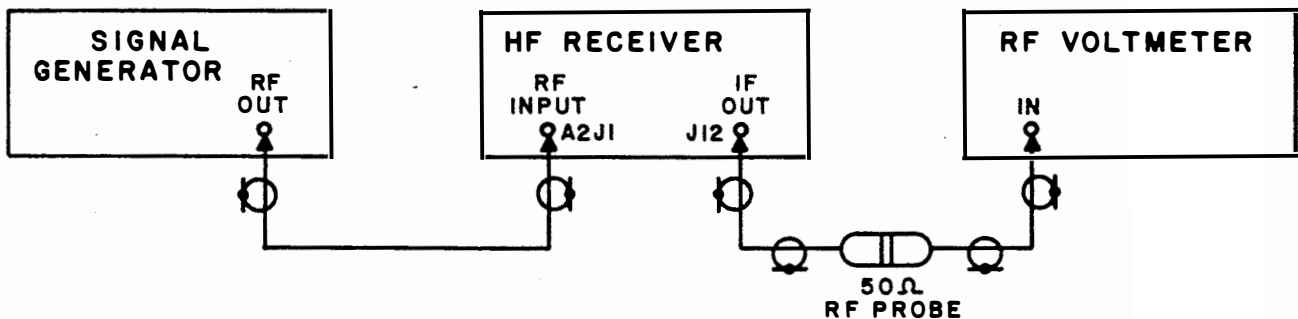

Figure 4-1. IF Gain and Bandwidth Performance, Test Setup
(1) Test equipment required. This test will utilize a signal generator, an RF voltmeter and a 50  $\Omega$  RF probe. Specifics are set forth in table 6-1.
(2) Technician rating required. An Electronic Technician Second Class or above should perform this test.
(3) Set up data. The test equipment should be connected to the receiver as shown in figure 4-1.
(1) Test equipment required. This test will utilize a signal generator, an RF voltmeter, and a 50  $\Omega$  RF probe. The equipment required is identical to that specified in paragraph 4-4.c.(1) above.